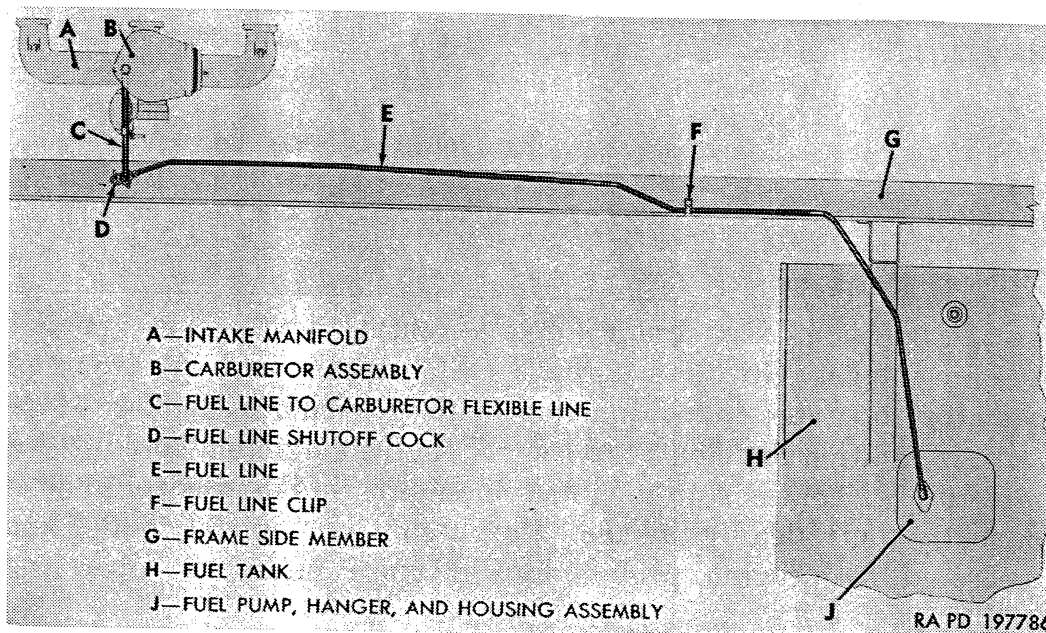

Figure 122. General arrangement of fuel system units.
a. *Description.* Units which comprise fuel and air intake system include: carburetor and governor system, carburetor controls, air cleaner assembly, fuel tank and lines, electric fuel pump assembly, and engine primer pump and lines (when used). General arrangement of fuel system major items is shown in figure 122. Manifold heat control and chassis unit vent and breather line system, which is related to fuel and air intake system operation, is also described in this section. Electric fuel gage indicates fuel level in tank.